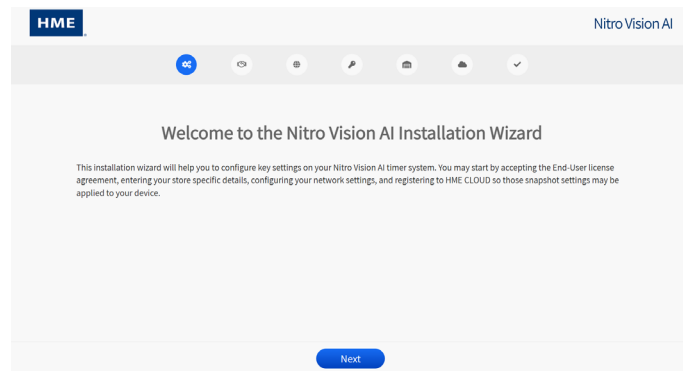

Fig. 3.11
- When the system first boots up, the Installation Wizard screen appears (see Fig. 3.11).